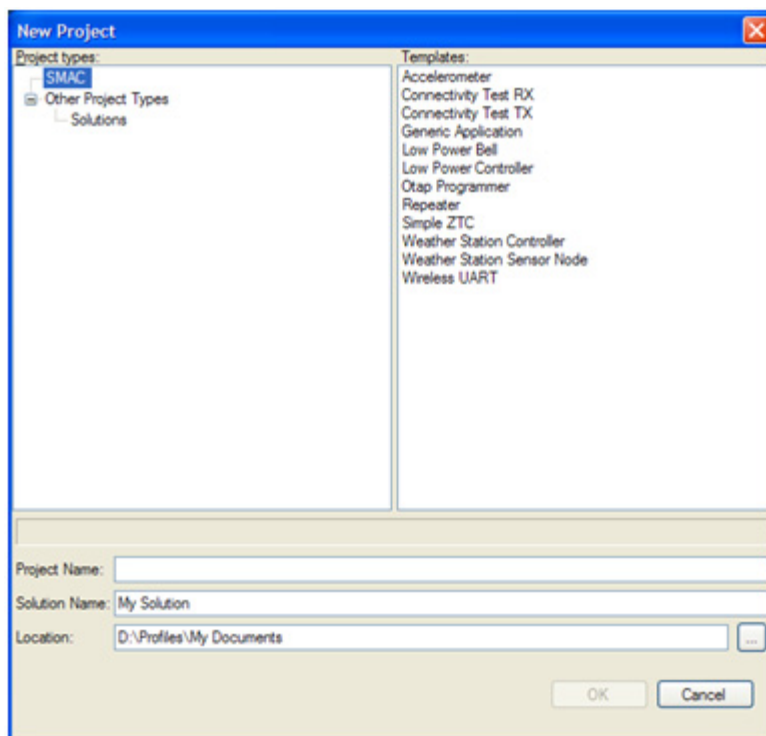

Figure 1-3. Creating a new project
3. Create a new project as shown in Figure 1-3.